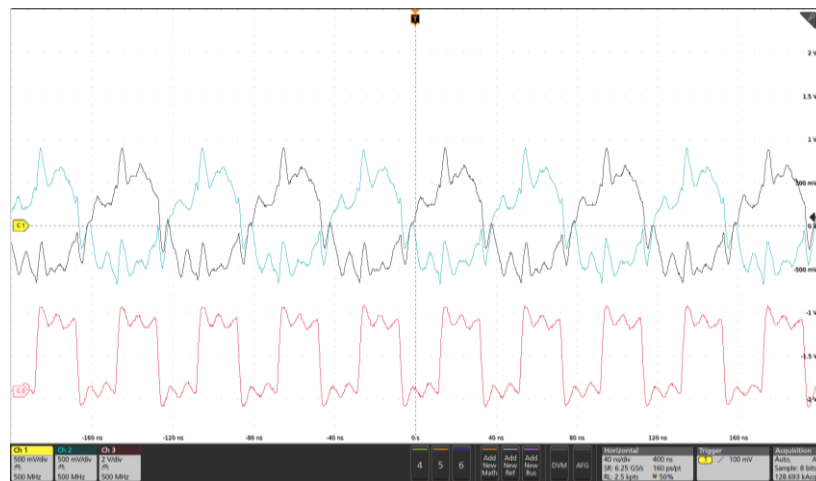
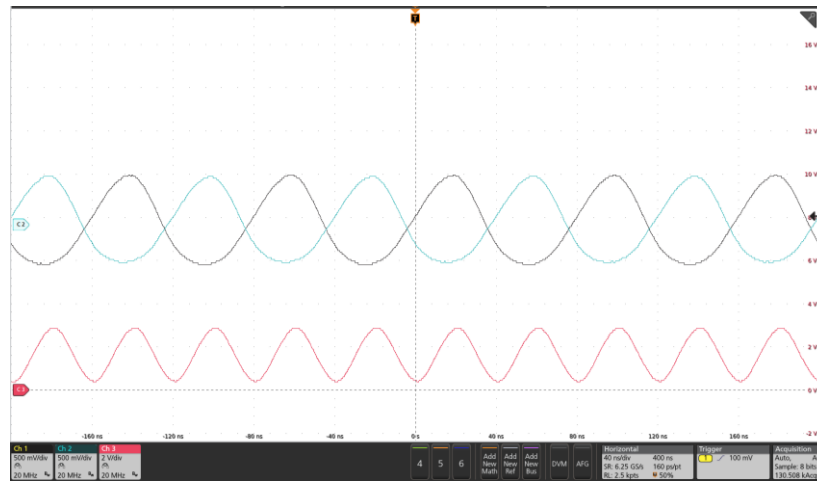

Figure 23. Oscilloscope Screen Showing the Correct Waveforms (High Bandwidth)
Figure 24. Oscilloscope Screen Showing the Correct Waveforms (Low Bandwidth)
13. Verify a 25 MHz clock is present on CLKO as shown in Figure 23 (channel 3, red). The signal quality is limited by the pogo spring-contact pin; what is important is that the frequency is 25 MHz and the amplitude is roughly 3.3 V_{pp}. If a high-bandwidth oscilloscope is not available, an oscilloscope with a bandwidth of about 10 MHz can still be used, as long as the frequency and amplitude can still be meaningfully compared to a reference EVB (as in Figure 24).
14. Verify signals on the SPE outputs Line+ and Line− are present as shown in Figure 23 (channels 1 and 2, black and blue). As with the clock output, the exact signal quality is not important; the frequency must however be exact (25 MHz) and the amplitude roughly 1 V_{pp}. Line+ and Line− must both be present as differential signals. If either is missing or they are not the opposite of each other, reject the board.
- Again, a low-bandwidth oscilloscope can be used as long as the amplitude can be compared to a reference EVB (Figure 24).